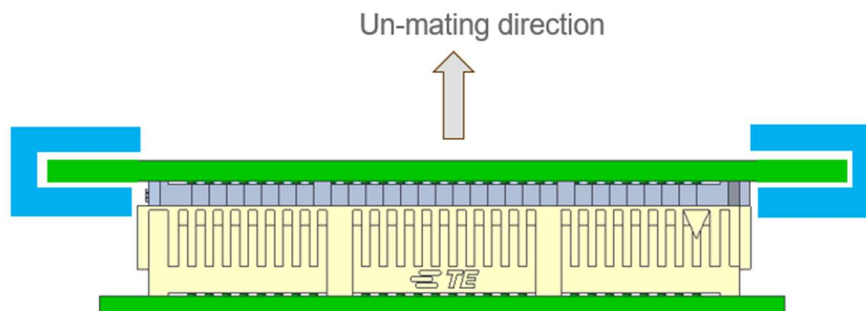

Figure 13
- The un-mating fixture should be placed next to connector, it is better to be around the connector. See figure 13.